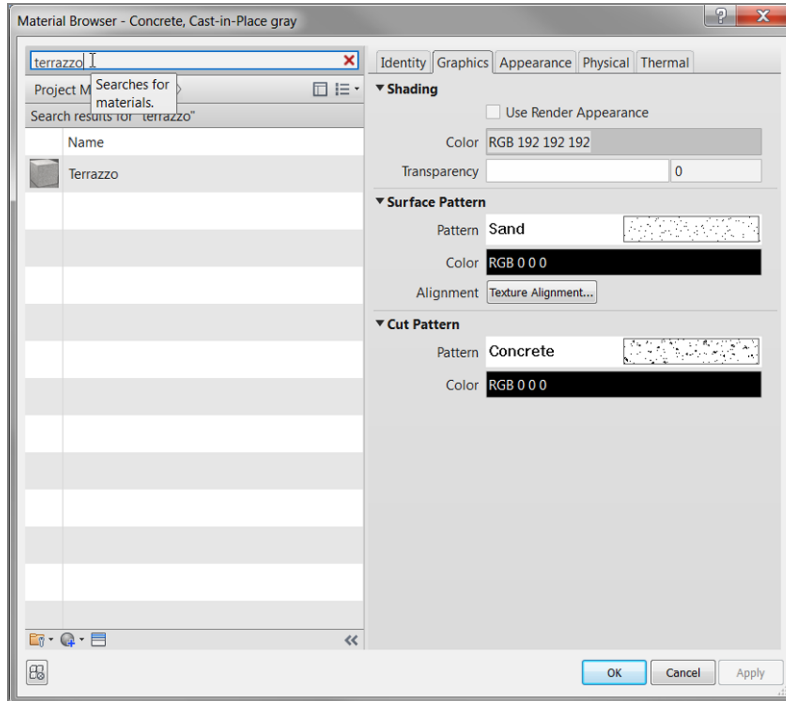

FIGURE 6.23: Selecting a material and adding it to the project
6. In the Material Browser, type **terrazzo** as shown in Figure 6.23. Your Terrazzo material appears. When it does, select it, and click OK.
7. Scroll down, and double-click Terrazzo (see Figure 6.23).